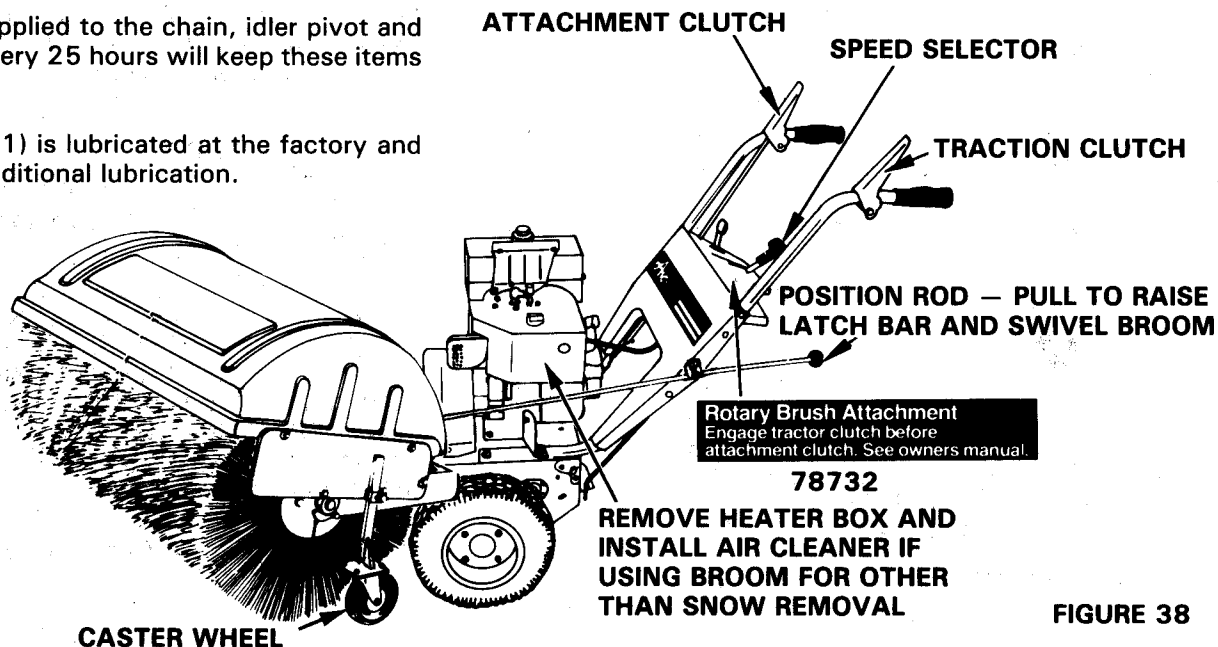

FIGURE 38
3. Install decal on right hand side of tractor dash panel. See Figure 38. Must be readable from operator's position.